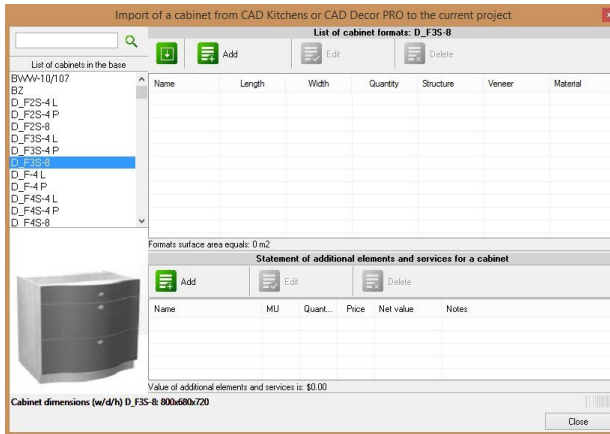
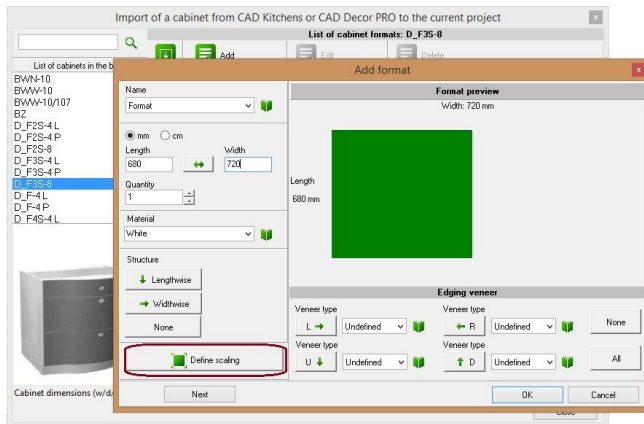

Fig. 110 – The 'current database...' window - list of cabinets available in the database
Fig. 111 – defining formats for a cabinet
- in the left part of the **'Current database...'** window you will see a list of cabinets present in the database (Fig. 110);
- at the bottom of the **'Current database...'** dimensions of the currently indicated cabinet are displayed (Fig. 110);
- you can now define the types and quantities of formats of which the indicated cabinet consists - to do it, mark the code of the cabinet on the list and click the **'Add/edit'** button in the **'List of cabinet formats'** field (Fig. 110), and then, one after another, describe the formats (give their dimensions, amount, grain structure, veneer and material) (Fig. 111);
- during defining the component formats of a cabinets, you can also define the way they will be scaled – in case dimensions of a cabinet are ever modified during inserting it into a design; the option is available under the  Define scaling button (Fig. 111);